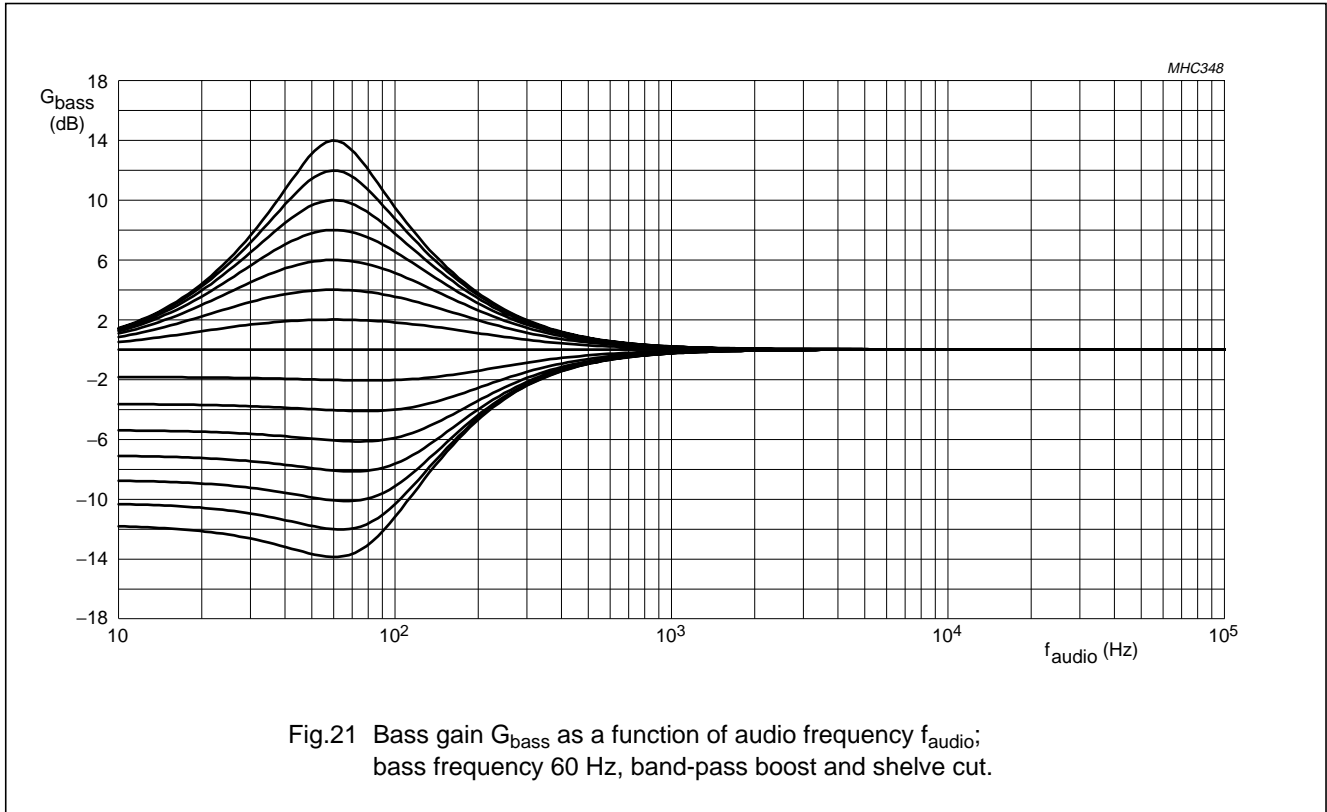

Fig.21 Bass gain  $G_{\text{bass}}$  as a function of audio frequency  $f_{\text{audio}}$ ; bass frequency 60 Hz, band-pass boost and shelf cut.
**Table 54** Description of data byte FH, see Figs 21 and 22